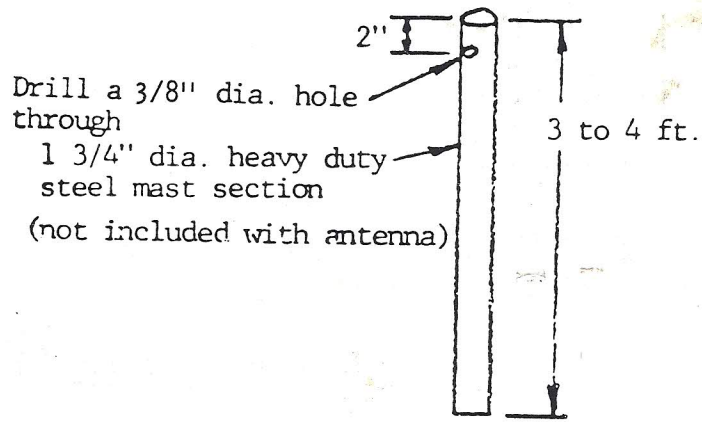

figure 10
10) The final steps in assembling the boom involve preparation of your mast section as shown in fig. 10 (this is the mast section that goes into the rotor), and installation of this mast along with the boom to mast plate on the boom. Figure 11 show the location of guy points on the boom, and height of the short mast section above the boom.